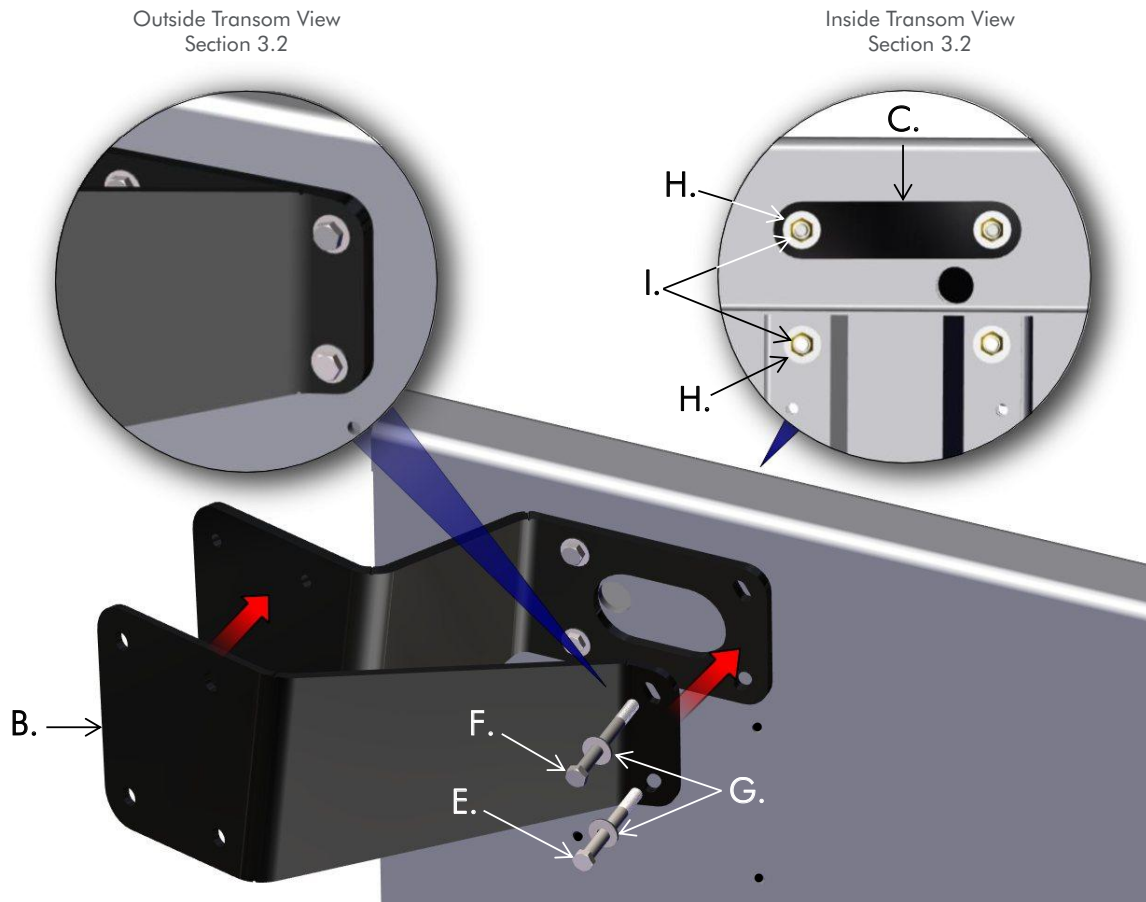

Figure 3
STEP 6. Place a neo-bond washer (**G**) onto bolts (**F**) & (**E**) with rubber backing facing the thread end of bolts. **FIG. 3**
STEP 7. Place brace (**B**) on top of adapter plate (**A**) aligning holes and push bolts (**F**) & (**E**) through brace and adapter plate. **FIG.3 Section 3.1**